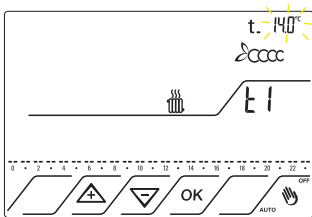

Fig. 28
7.4 Press OK to confirm. The display shows the first level value T1 14° C. Fig.28